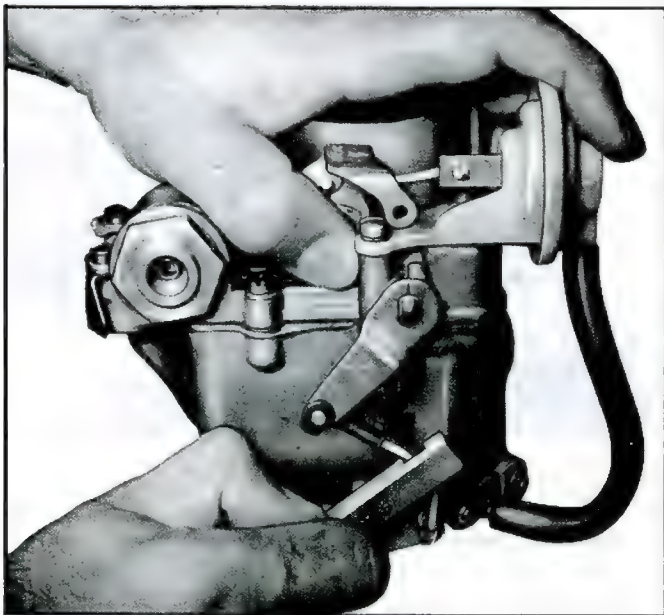

Fig. 13—Adjusting Pump Rod
- Adjust Pump Rod as follows (Fig. 13):**